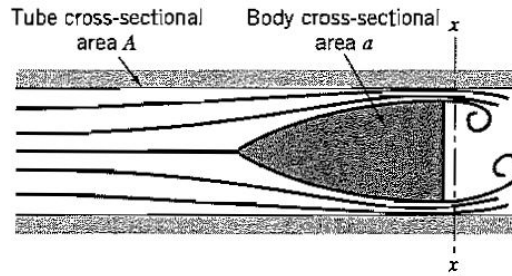

Figure P4.48
4.48 An axisymmetric body of cross-sectional area a moves steadily down a tube of cross-sectional area A , which is filled with a fluid of constant density ρ , as shown in Figure P4.48. The flow over the main part of the body is streamlined, but the flow separates over the rear part of the body such that the pressure over the section $x-x$ immediately downstream of the base is uniform. Neglecting viscous shear forces at the wall, show that the velocity of the body is given by